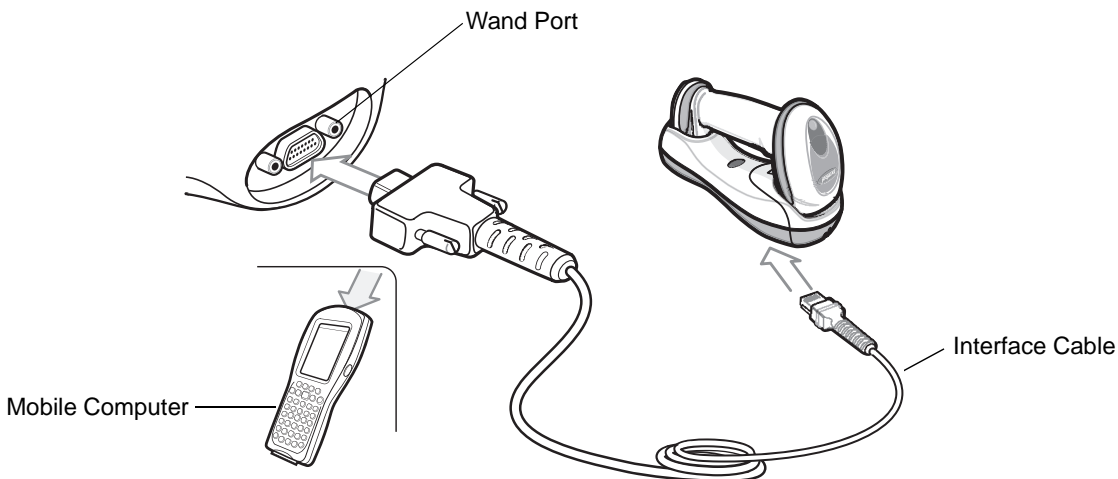

Figure 10-1 Wand Emulation Connection
- ✓ **NOTE** Interface cables vary depending on configuration. The connectors illustrated in Figure 10-1 are examples only. The connectors may be different than those illustrated, but the steps to connect the cradle remain the same.